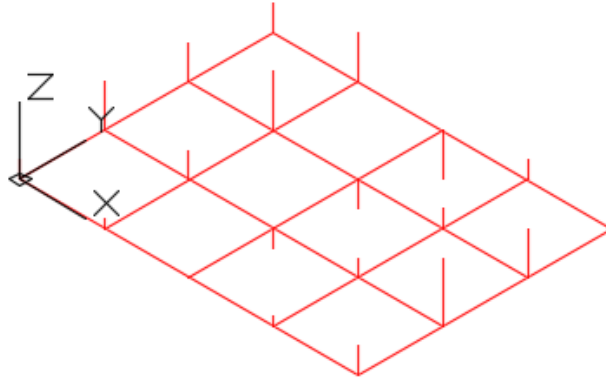

Figure Step 4
Step 4 Set the current visual style to 2D Wireframe, the current UCS to World and the current view to SE Isometric. Your model should appear as shown in the figure. (Figure Step 4)